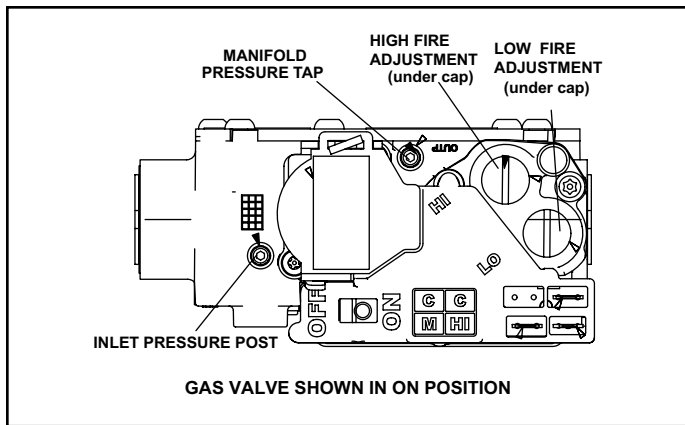

Figure 36. White Rodgers Gas Valve
See Figure 36
6. Move switch on gas valve to OFF. Do not force. See Figure 36.
8. Move switch on gas valve to ON. Do not force. See Figure 36.
An inlet post located on the gas valve provides access to the supply pressure. See Figure 36. Back out the 3/32" hex screw one turn, connect a piece of 5/16" tubing and connect to a manometer to measure supply pressure. See Table 13 for supply line pressure.
A manifold pressure tap located on the gas valve provides access to the manifold pressure. See Figure 36. Back out the 3/32" hex screw one turn, connect a piece of 5/16" tubing and connect to a manometer to measure manifold pressure.
1. Connect test gauge to manifold pressure tap (Figure 36) gas valve.
4. If necessary, make adjustments. Figure 36 shows location of high fire and low fire adjustment screw.